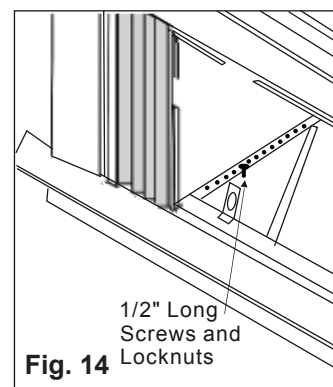

Fig. 14
3. Install support brackets (with sill angle brackets attached) to correct hole in bottom of cabinet. (See Fig. 14.)